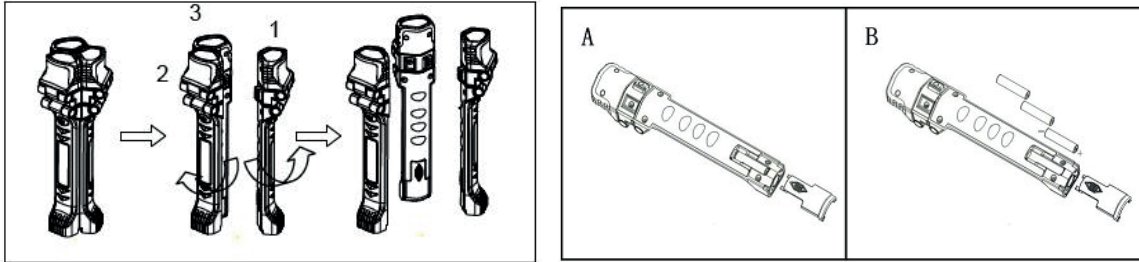

Fig. 1
1. Detach the 3 LED Flashlights by removing the flashlight 1 away from flashlight 2. Hold the flashlight 1 and 2 firmly and pry open the assembly by twisting action shown in Fig.1.